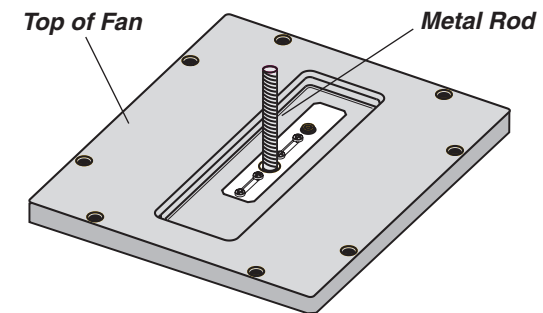

Figure 1
ASSEMBLY (Figures 1 through 4) NO TOOLS REQUIRED
3. Thread **Metal Rod** into hole in top of Fan by hand. The Metal Rod is securely in place when you are unable to screw it any further. (**Figure 1**)